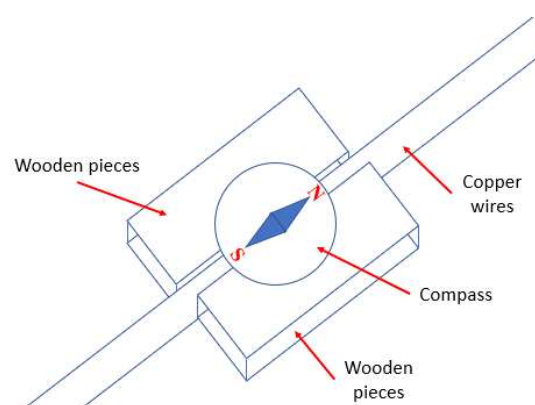

Figure 2
3. Place the conductor between two wooden pieces. Put the compass above it (Figure 2).